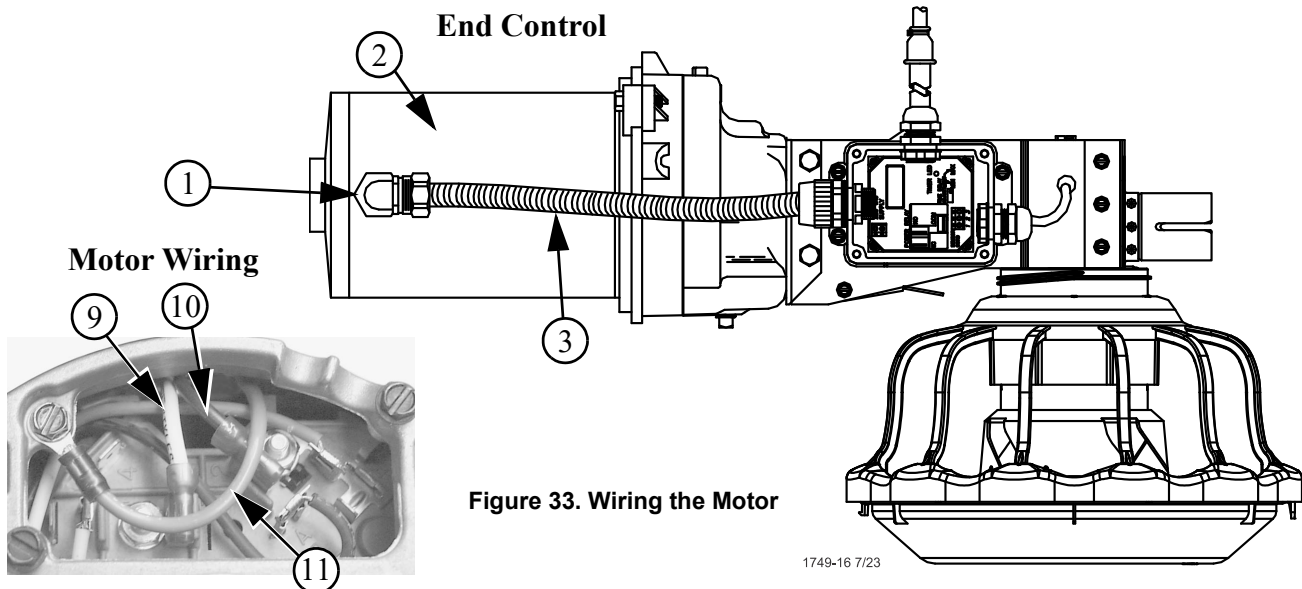

Figure 33. Wiring the Motor
8. Install the Metal Water Tight Connector (**Item 1**) in the Feed Line Motor (**Item 2**). Cut the Flex Conduit (**Item 3**) to length. Slide the wires from the end control through the Flex Conduit (**Item 3**). Install the Flex Conduit. Connect the wires to the Feed Line Motor (See **Figure 33**).